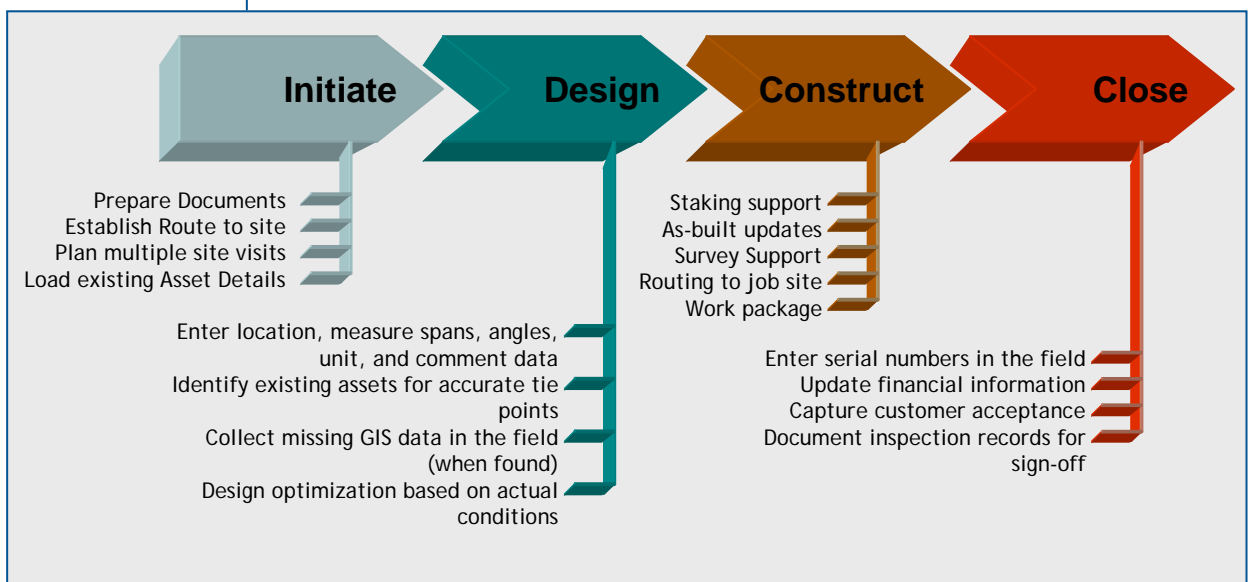

Figure 2: AFD Workflow Impacts
The best way to understand how a process works is to follow the information. A design project will follow four (4) high-level basic steps; initiate, design, construct, and close. Each step needs to receive information as well as give information to the next step. When these steps are documented for a particular process, utilities usually find breaks in the flow of information. A valid AFD will support at least 3 of these steps if not all. Figure 2 illustrates these steps and how AFD provides a positive impact: